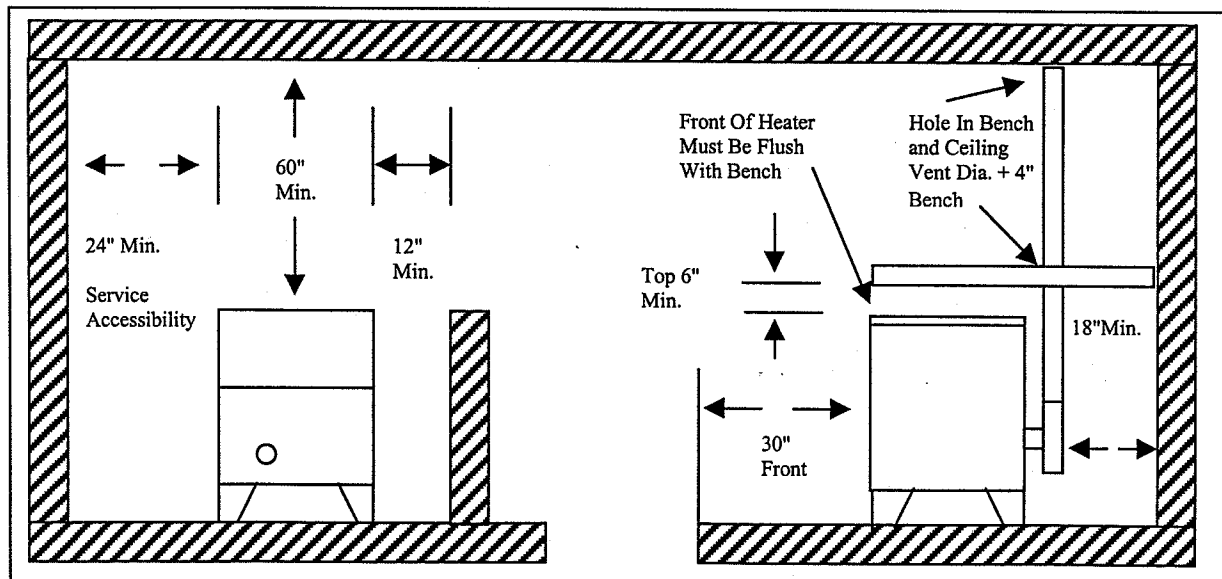

Figure 5
2. Position the greenhouse heater following the minimum clearances from combustible materials as noted (in figure 5 page 8).